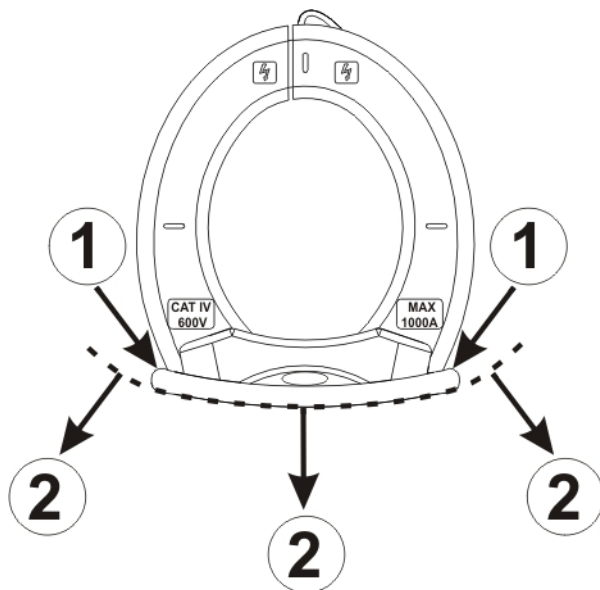

Fig. 3: hand protection
- Keep your hands always under the hand protection. This protection is always located in a suitable position to guarantee a correct safety distance from possible exposed or live parts (see Fig. 3: hand protection)
Always keep your hands under the hand protection. This protection is always located in a suitable position to guarantee a correct safety distance from possible exposed or live parts (see Fig. 3)